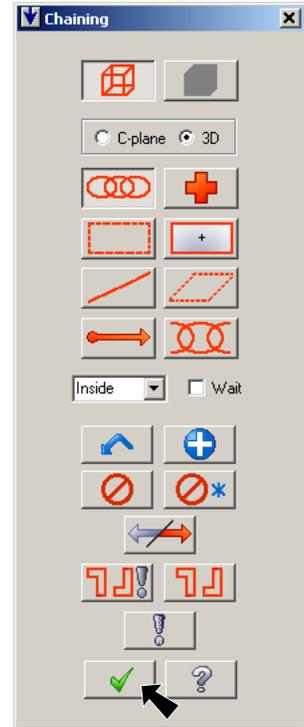

Fig. 12
Step 4. Click OK  in the Chaining dialog box, **Fig. 12**.